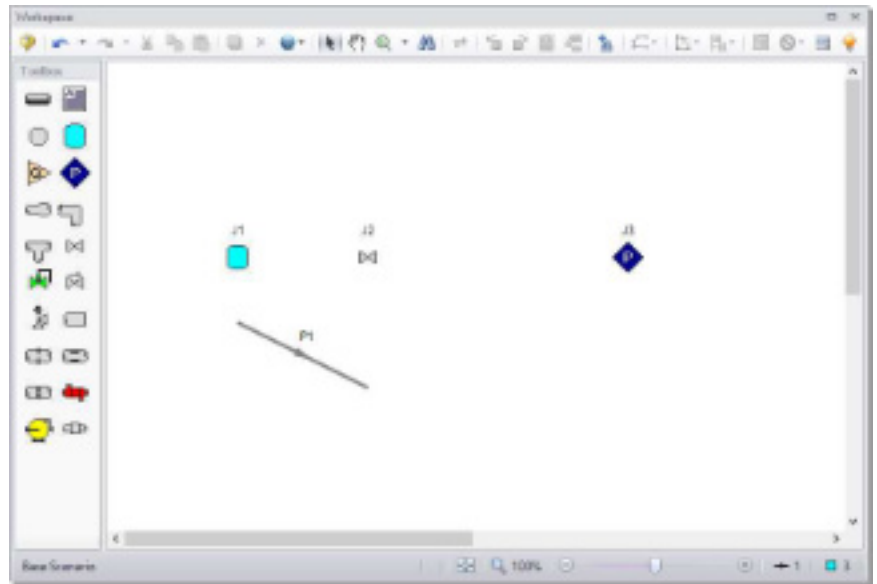

Figure 2.4c First pipe drawn
- **To create a pipe, click the Pipe Drawing Tool icon** on the Toolbox. The pointer will change to a crosshair when you move it over the Workspace. Draw a pipe near the junctions by clicking and dragging the mouse, similar to that shown in Figure 2.4c.